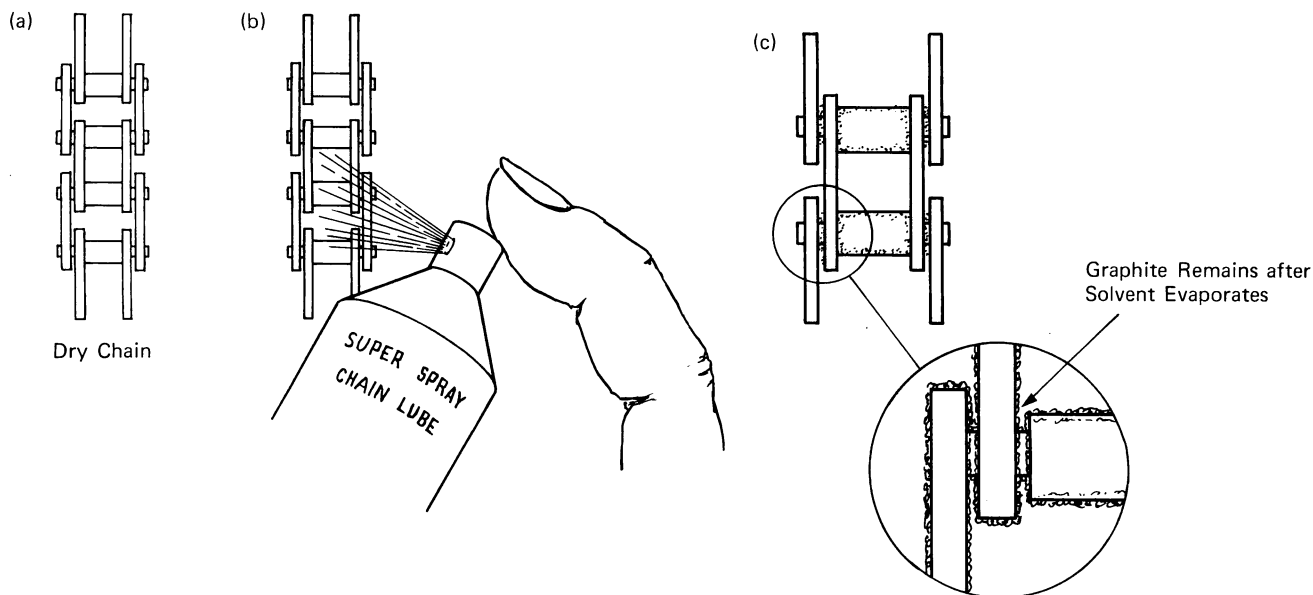

Fig. 14-10 Chain lubrication: (a) dry, (b) being sprayed, and (c) with solvent vaporized, leaving heavy grease
**Chain Lubrication.** The aerosol-powered chain lubricants on today's market, though relatively expensive, are clean and convenient. They penetrate the rollers of the chain with a solvent-thinned grease. As the solvent evaporates, the grease solidifies inside the chain where it's needed (Fig. 14-10). Lubricating the chain with a high-quality lubricant should be considered a mandatory task *every time you use a tank of gas*.